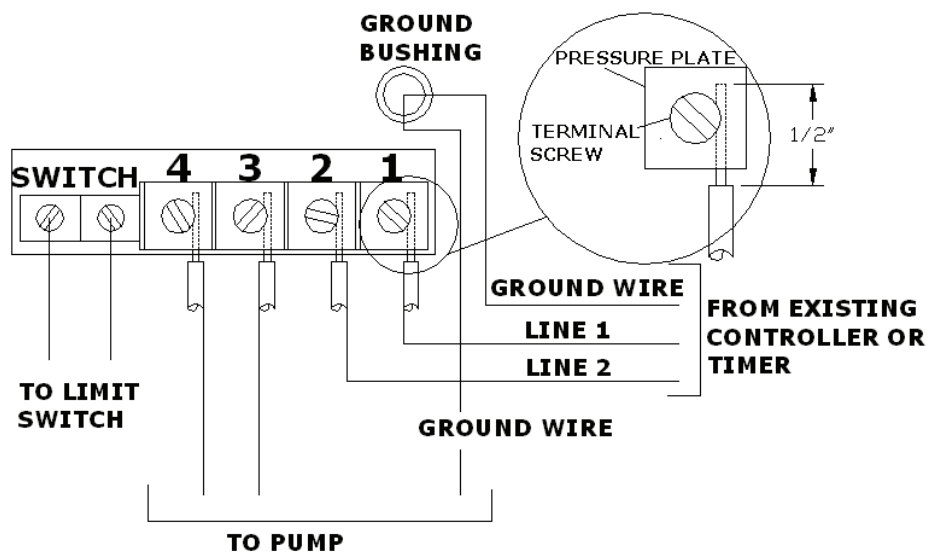
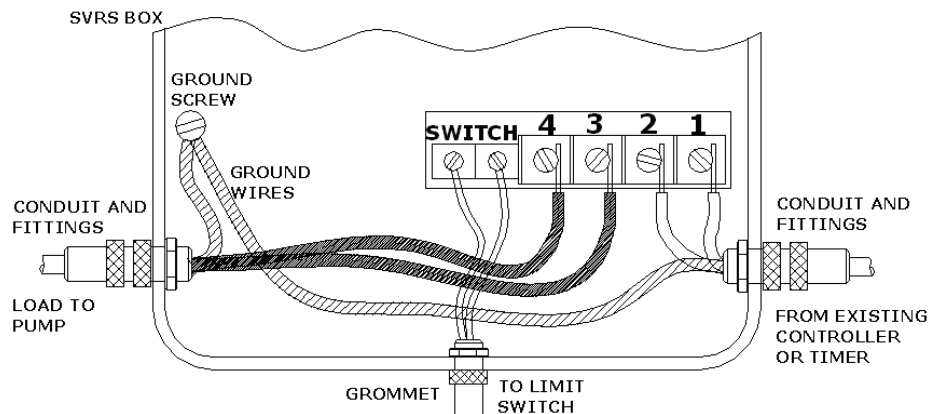

Figure 2. SVRS Box Terminal Layout
Figure 3. Wiring Diagram
4.11 Attach the wires coming from the controller (Paragraph 4.7) and from the pump (Paragraphs 4.8 or 4.9) to the terminals of the SVRS box as shown in wiring diagram Figure 3. Insert only the stripped copper ends of wires under the pressure plates of terminal screws as shown in Figure 2. Tighten screws firmly (20 to 25 inch-lbs).
4.13 Remove a convenient knockout of the SVRS box casing, route valve leads away from traffic area and connect it to box using proper strain relief grommet then connect leads to box terminals marked "SWITCH" as shown in Figure 3.